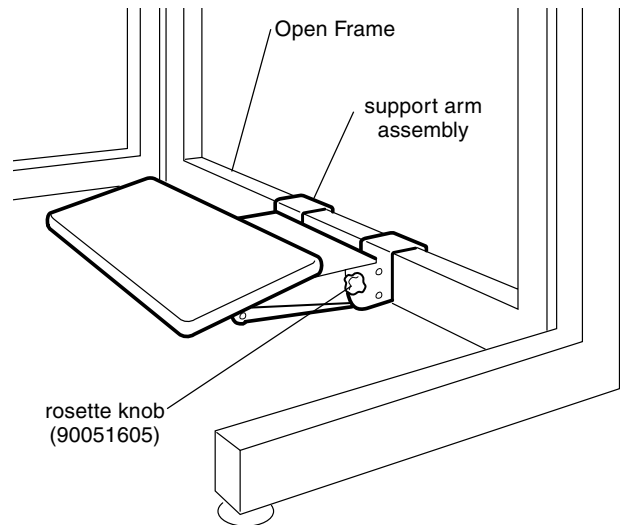

Figure 1
1. Drop U-brackets over the bottom rail of open frame panel at desired location. Make sure bracket is securely resting on frame. (Figure 1)
2. Unscrew both rosette knobs at each side of Footrest. Pull up support arm until desired height is reached. Align holes in support arm with rosette knobs and reinstall knobs, tighten securely. (Figure 1)